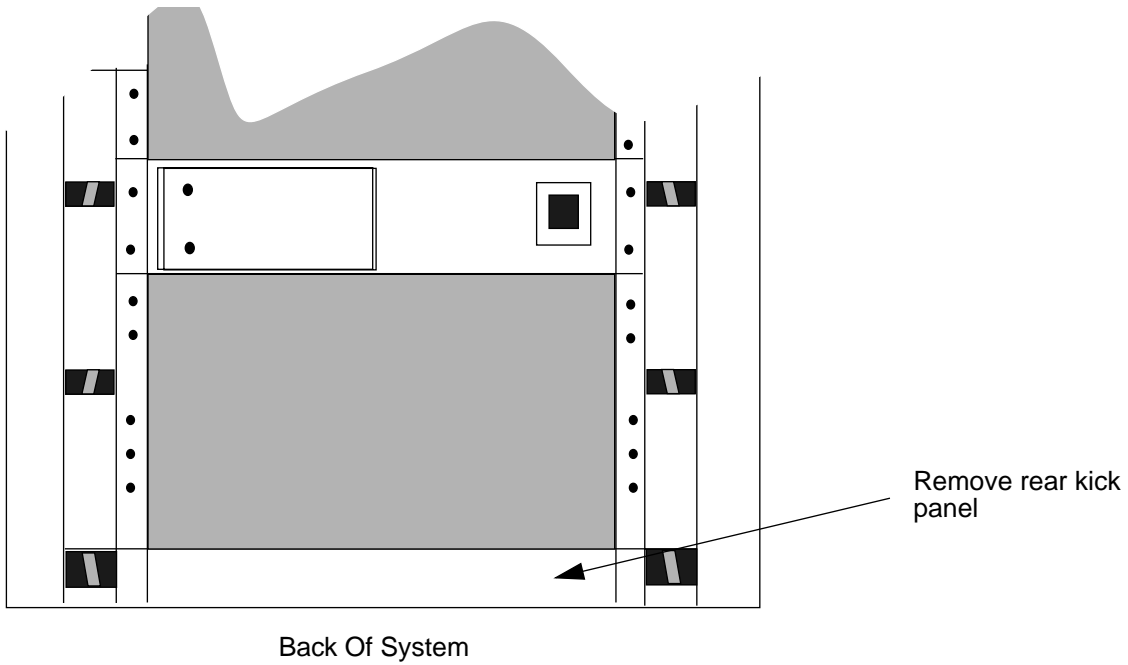

Figure 9: Removing The Rear Kick Panel
8. From the back of the system, remove the rear kick panel shown in Figure 9.
1. From the back of the system, replace the rear kick panel. (See Figure 9)